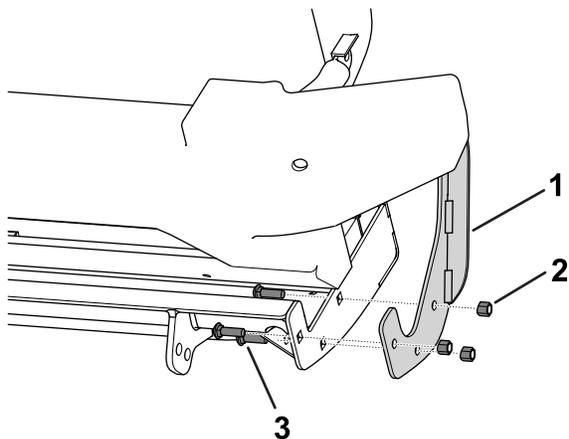

Figure 3
- Loosely secure the side plates to the skid plate using 6 carriage bolts and 6 nuts (3/8 inch) as shown in Figure 3.